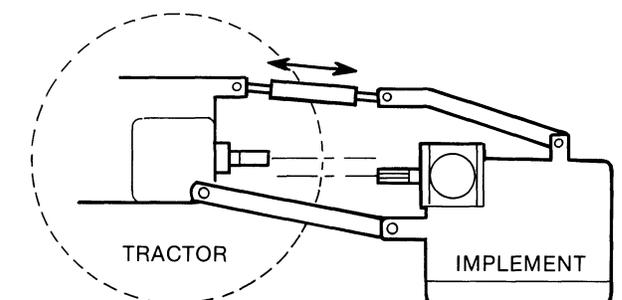

Figure 13
- Adjust the tractor top link until the implement gearbox input shaft is parallel with the tractor PTO shaft as shown in Figure 13.